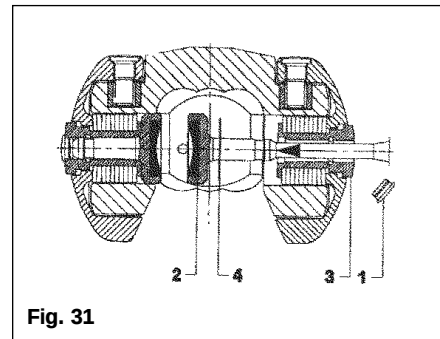

Fig. 31
- Remove protective caps (Fig. 31/Item 1) with the aid of a small screwdriver.
- Press worn out pad inwards and remove (use punch and hammer) (Fig. 31/2).
- Insert new friction pad from below (after first re-inserting shim washers if they were present) and press in as far as it will go (Fig. 31/Item 4 & Fig. 32).